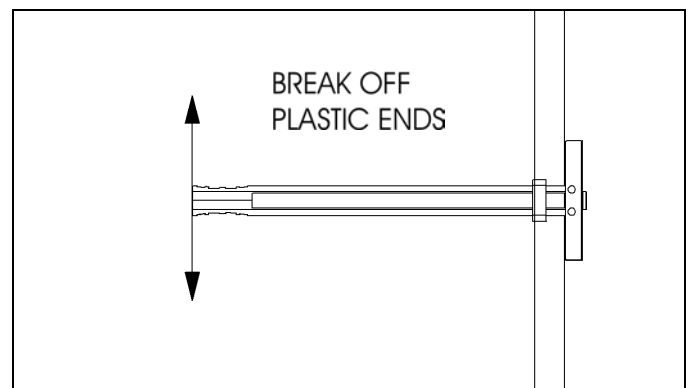

Figure 11.
6. Split finger grip ends apart to break plastic ends off flush with plastic ring of anchor (see Figure 11).